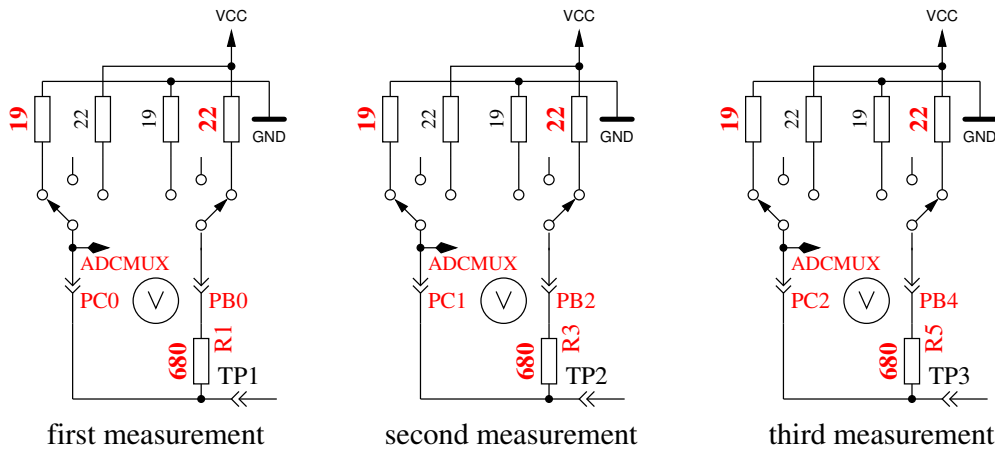

Figure 5.46: Measurement of internal resistance of Port C switched to GND
5. **This step tests the capability of GND (-) connected 470kΩ resistors (H) to pull the test pins to GND.** Row 1 shows the text “RH-”. Row 2 should display zero for all three pins.
6. **This step tests the capability of VCC (+) connected 470kΩ resistors (H) to pull the test pins to VCC (+).** Row 1 shows the text “RH+”. The results are shown als difference to VCC and should be near zero. Great differences from the best value for test 5 and 6 are errors such as isolation problem, flux material or damaged port.
8. **Measuring of internal resistance of pin output switched to the GND signal.** This test and the follwing tests will only be done, if the option AUTO_CAL is selected. The internal resistance of the port C outputs switched to GND (-) are measured with the current of to VCC (+) switched 680Ω resistors, see Figure 5.46. Only the three pins of the ADC port are measured, the resistor port B (PB0,PB2 and PB4) can not be measured without hardware modification. Is is assumed that the port resistance of the different ports are nearly identical. The resistor value will be shown in the next test.